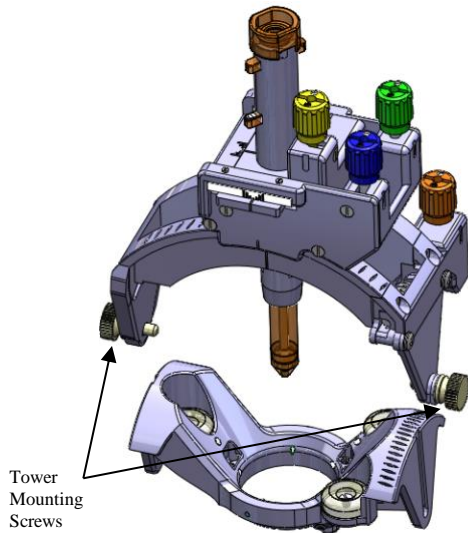
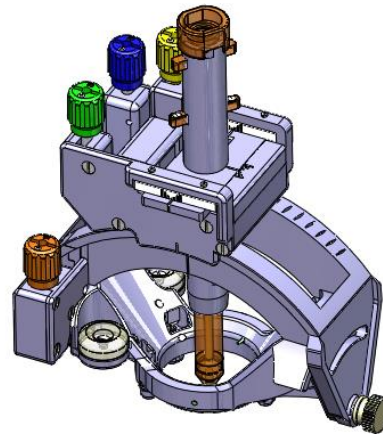

Figure 5a
Figure 5b
8. Mount the Tower onto the Base by first loosening then grasping the Tower Mounting Screws. Grasp the Tower by the top rectangular gear housing. Align each screw with the mating grooves on the Base. **See Figure 5a.** Slide the Tower into place and ensure screws seat into the mounting holes on the Base. **Caution:** Avoid applying pressure to the Tower Thumb Wheels while grasping the Tower. **See Figure 5b.**